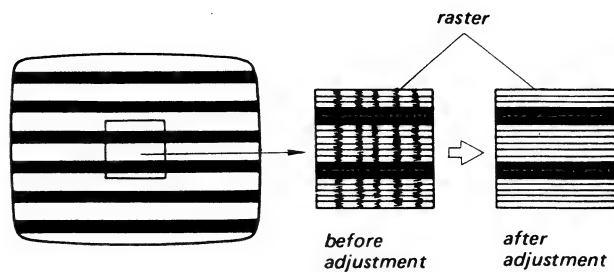

Fig. 3-7 4.5 MHz trap adjustment
6. Adjust coil L402 for minimum 4.5 MHz stripes in the picture as shown in Fig. 3-7.